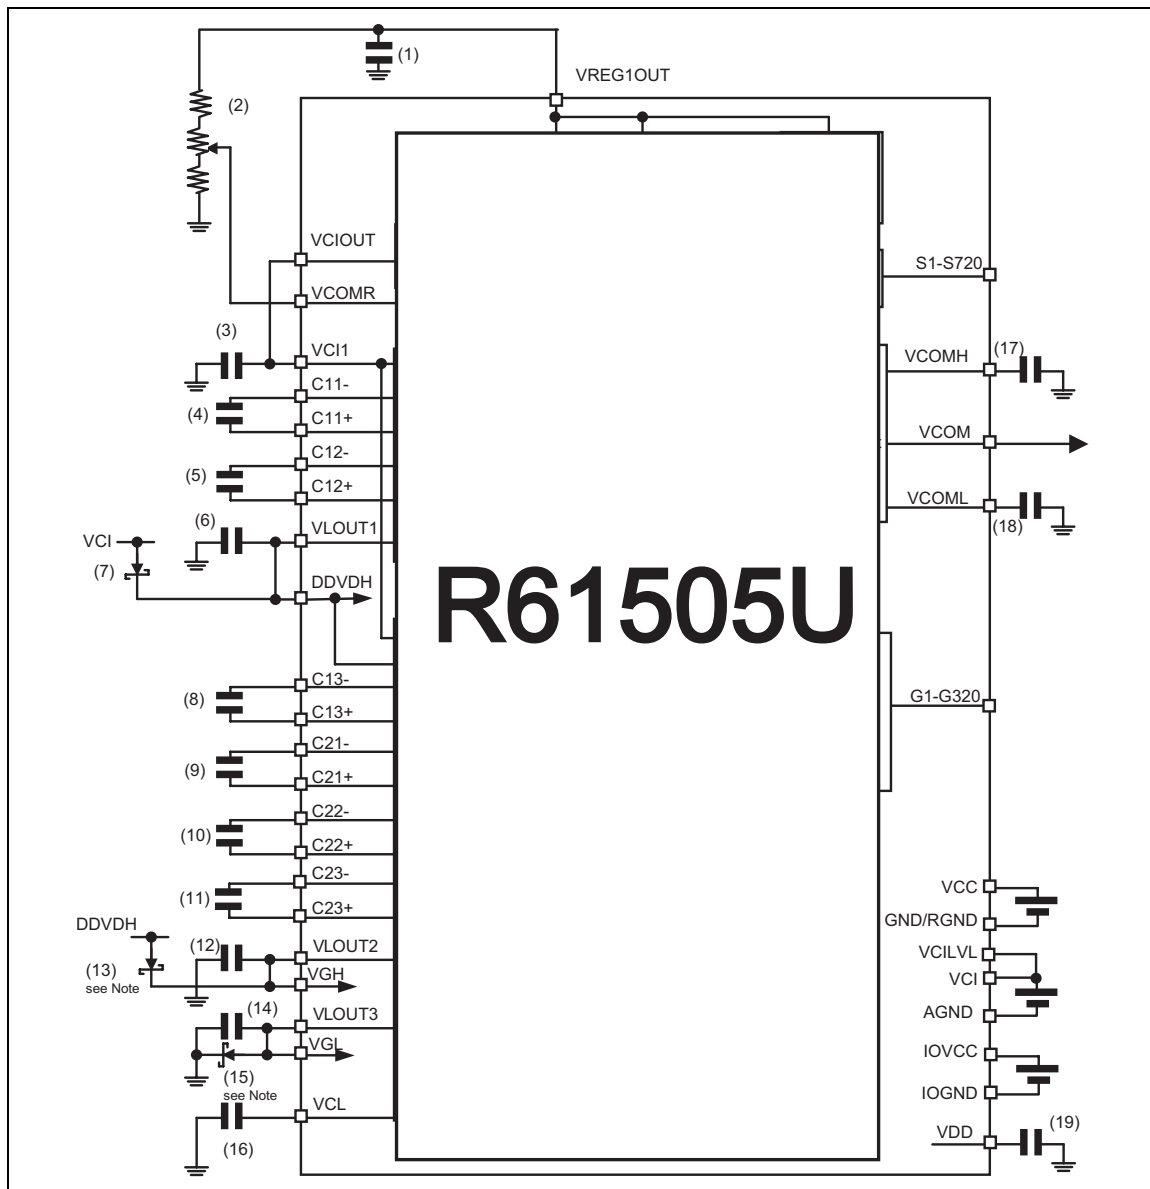

Figure 72
2. The numbers in the parentheses corresponds to the numbers of the elements in Figure 72, Figure 73.